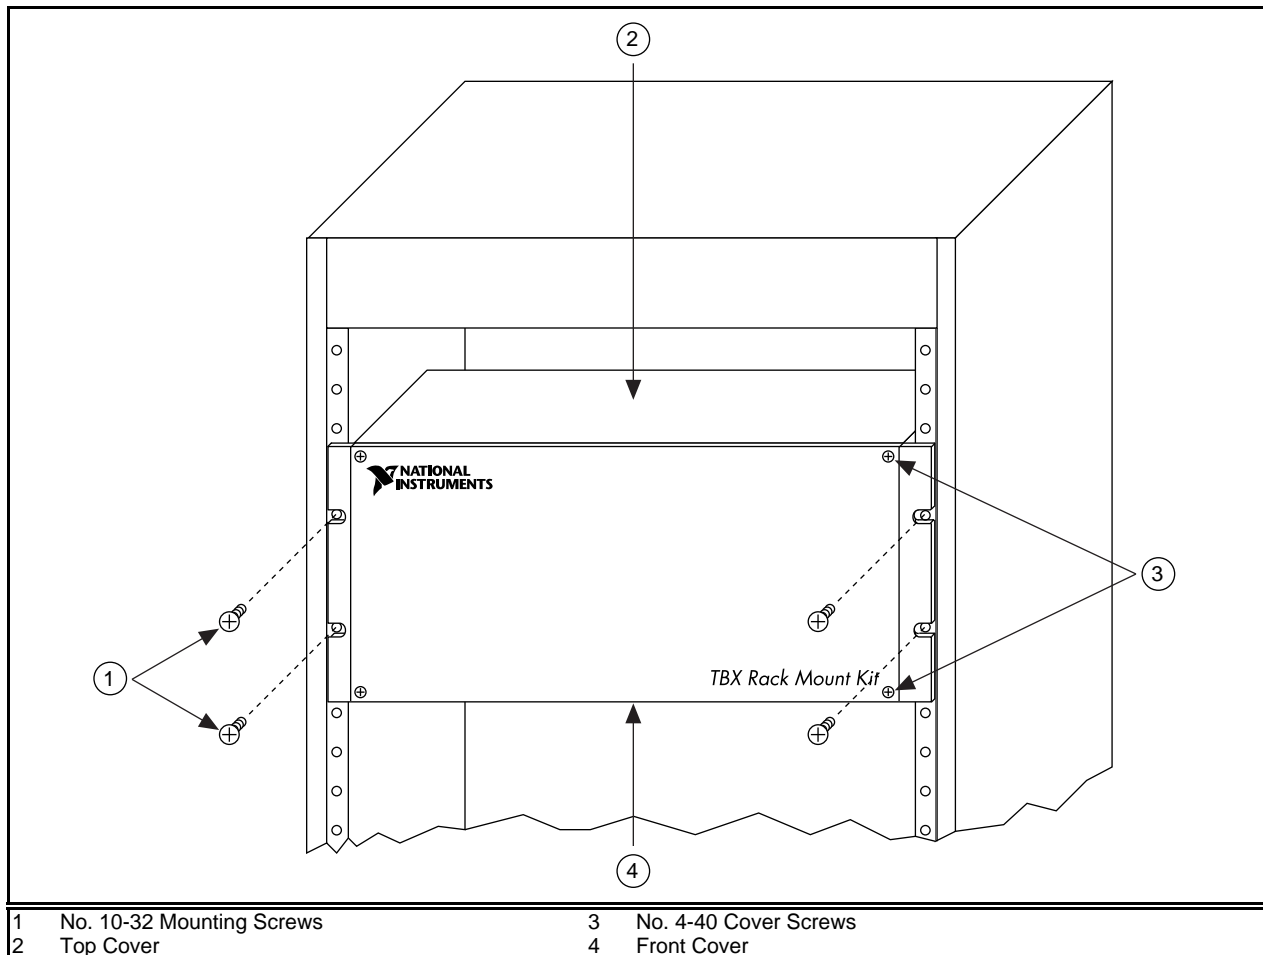

Figure 1. Installing the TBX Rack-Mount Kit into the Rack
Perform the following steps to install the TBX rack-mount kit in a standard 19-inch rack. Refer to Figure 1 as needed.
1. Remove the front cover of the rack-mount kit by unscrewing the four 4-40 Phillips-head cover screws. Refer to Figure 1 to locate the 4-40 screws and the top and bottom covers.
After connecting cabling and field wiring to your terminal block, refer to Figure 1 to reattach the rack-mount covers, if necessary (cover use is optional).